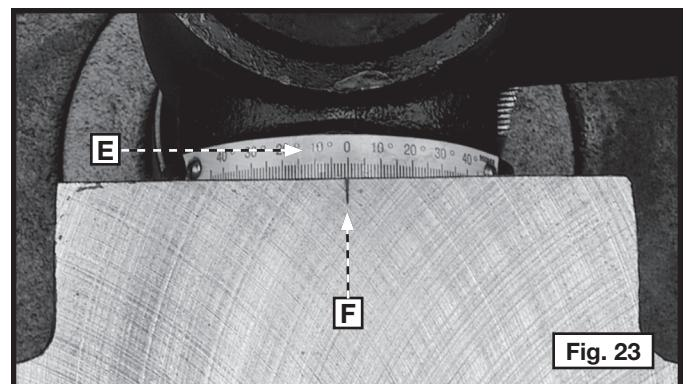

Fig. 23
5. A tilt scale (E) Fig. 23 on the table bracket casting indicates the degree of tilt. A witness line and zero mark (F) are also provided on the table.